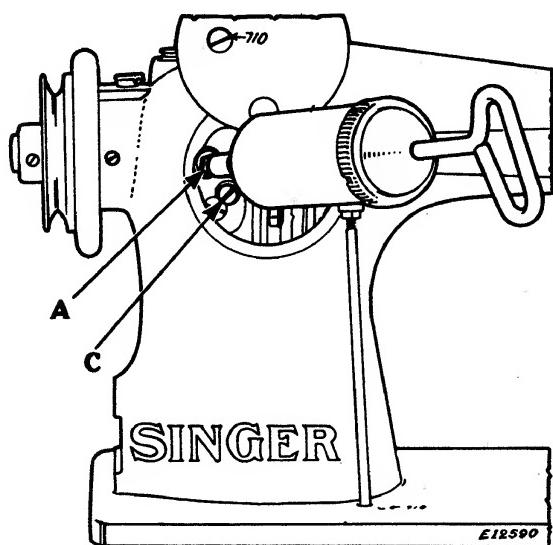

Fig.4
level hole screw (C, Fig.4) and force the Alemite fitting (A, Fig.4) until it emerges from the level hole at (C), then replace the screw (C).
Replenish the gear cases at (A) and (B), Figs. 4 and 5 with GEAR LUBRICANT every 160 hours of operation.
To supply grease to the upper gear case (Fig.4), have the machine in its normal working position, remove the lubricant into the Ale-